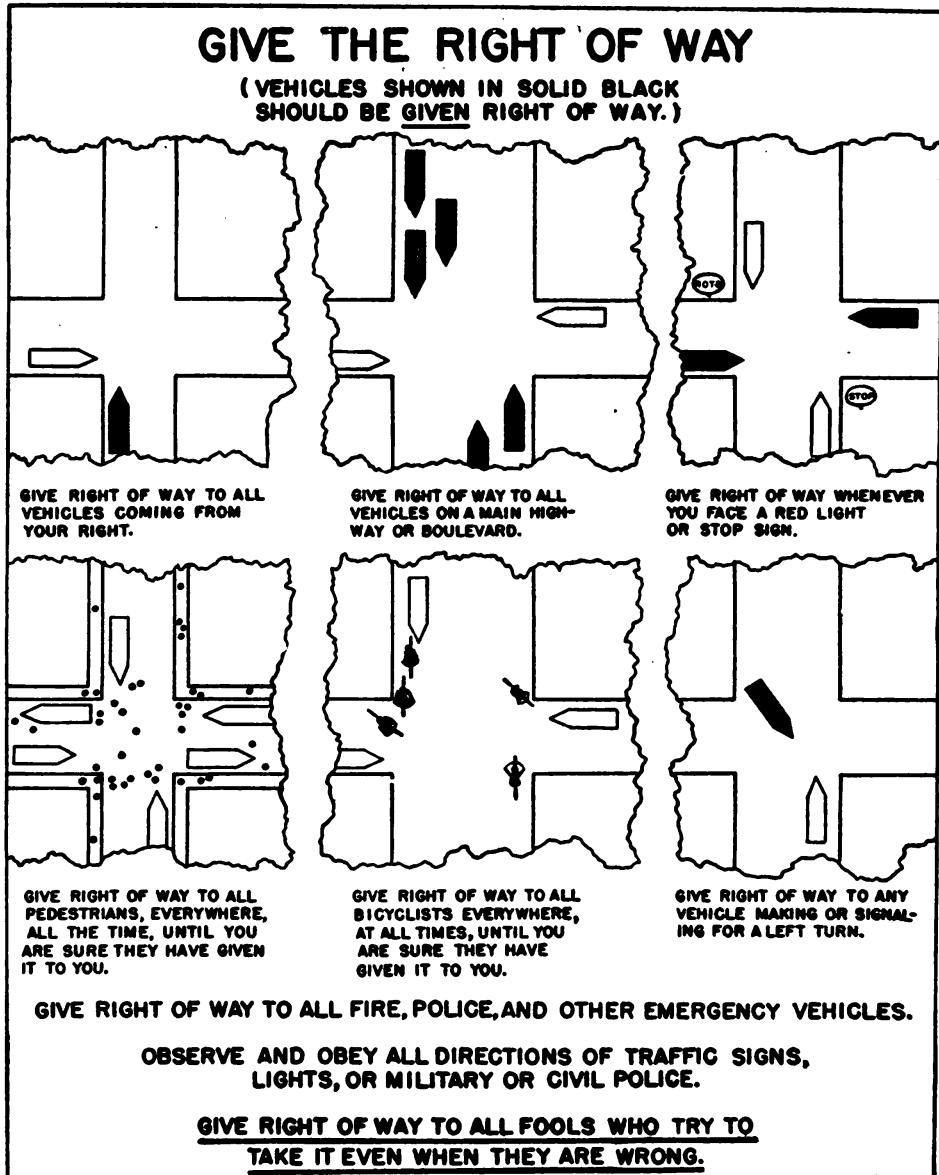

FIGURE 24.
*a. Right-of-way rules.*—Give the following rules for right-of-way and emphasize that all drivers should observe them, illustrating rules by drawing figure 24 on the blackboard:
(1) Give the right-of-way to all vehicles approaching from your right.
(2) When entering or crossing a main highway or boulevard, give the right-of-way to all vehicles on that highway, no matter whether they are coming from the right or the left.
(3) Always give the right-of-way to pedestrians, unless you are sure that they have extended it to you.
(4) Come to a full stop and give the right-of-way whenever you approach a "STOP" sign.
- (5) Give the right-of-way to all police and fire department vehicles, ambulances, and other emergency vehicles.
- (6) Give the right-of-way to funeral processions.